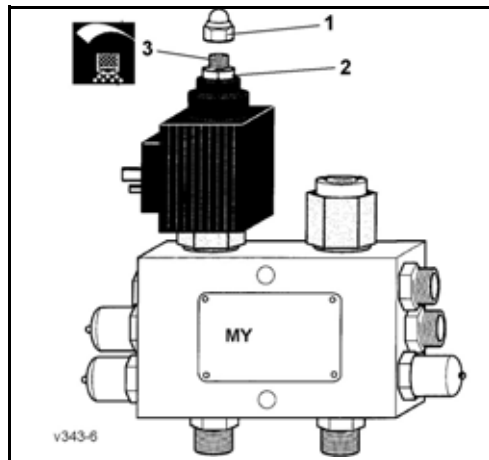
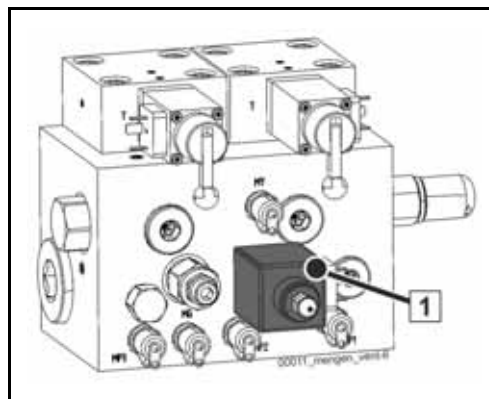

Fig. 211 Valve design 1
Fig. 212 Valve design 2
In both operating modes (LOCAL and REMOTE), the stroke rate of your concrete pump is regulated via this electrically adjustable valve (**Fig. 211**).
- Remove the cap nut (1) (**Fig. 211**).
- Hold the screw spindle (3) with an Allen key and loosen the lock nut (2).
- Configure the max. flow rate (stroke rate) for the concrete pump on the “emergency-off block” for adjusting the flow rate (Fig. 211)/(Fig. 212).